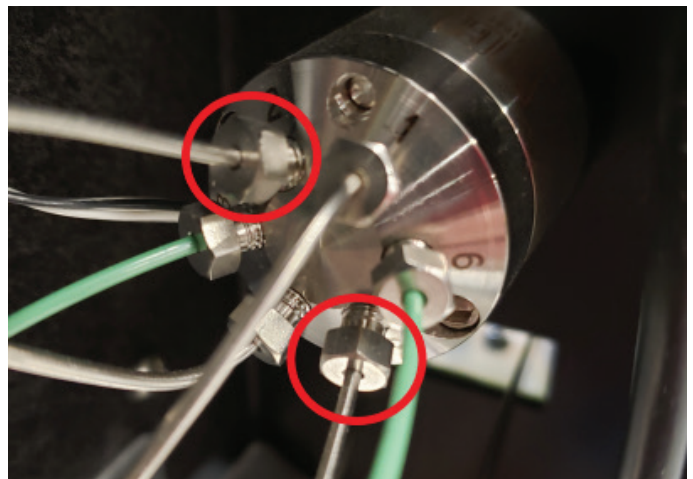

Figure 12: Prime valve connections
5. Using a 1/4" open end wrench, disconnect one of the upper Valco bulkhead connections at prime valve port 2 or 5 and remove the tubing from the instrument (Figure 12)